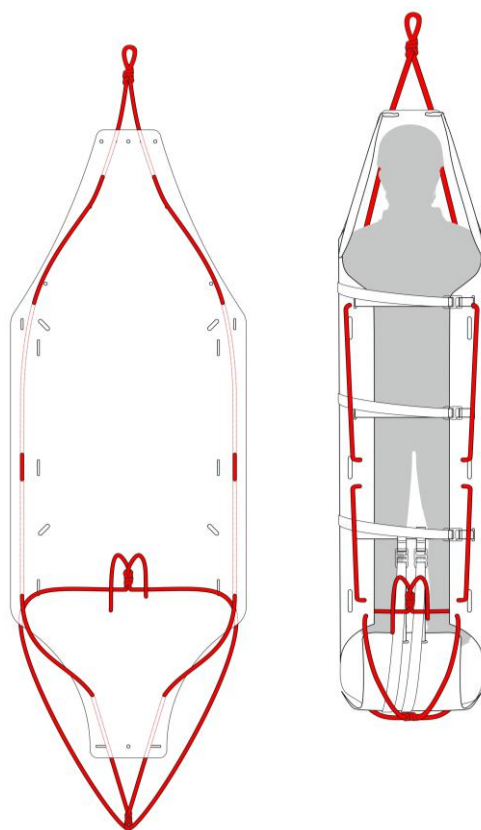

Fig. 15
- c) vertical lowering or lifting: insert the rope (H) in the holes A8 of the support surface (fig. 15).